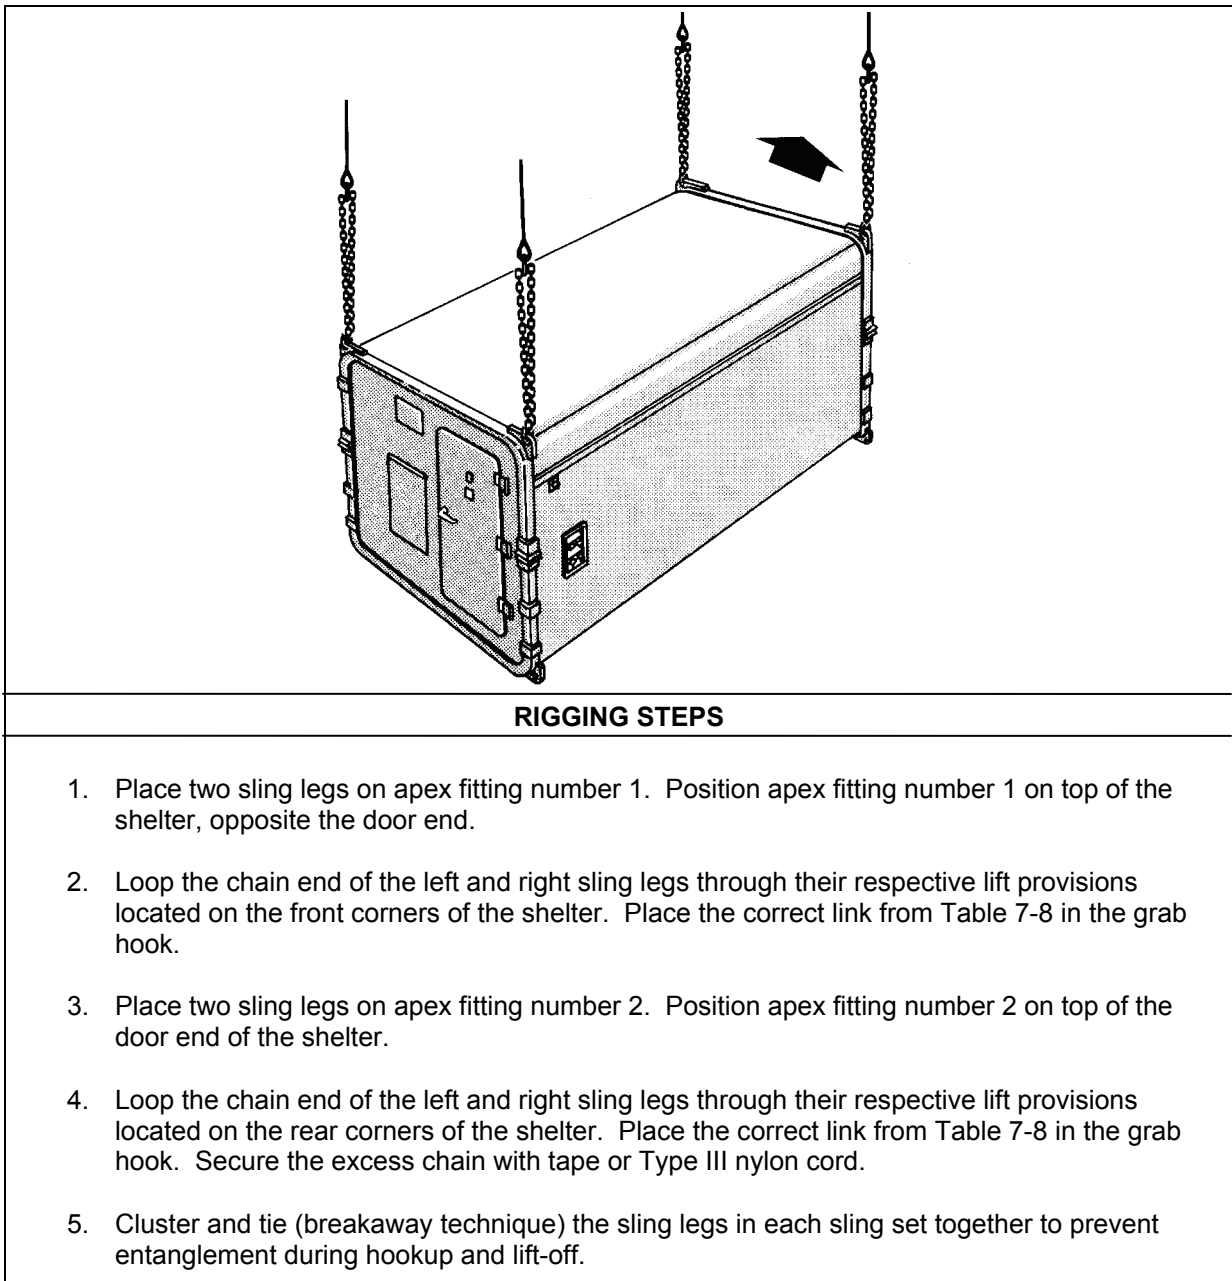

Figure 7-8. Field Maintenance Equipment Shop 21, Unmanned Shop, Electrical Equipment
- **Rigging.** Rig the load according to the steps in Figure 7-8.